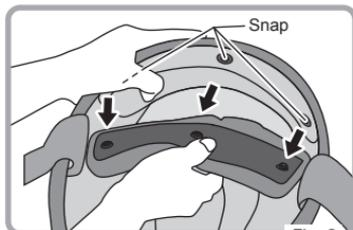

Fig. 2
- ③ Unfasten the 3 snaps at the rear to remove the inner pad as shown in Fig.2.